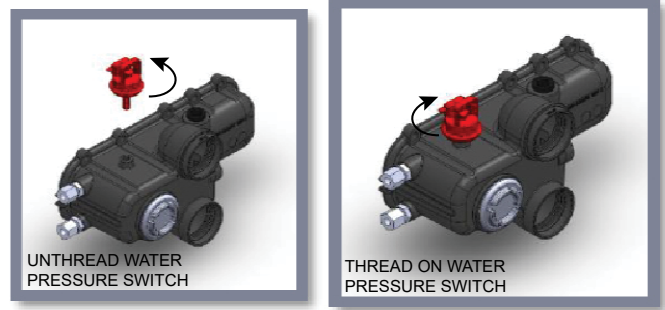

Figure 4. Water Pressure Switch Installation
9. Carefully remove the Water Pressure Switch after the electrical wires are disconnected by unthreading the switch off the header (See **Figure 4**).
10. Apply ample thread sealer to the length of the new Water Pressure Switch threads. Thread the switch clockwise into the main Inlet/Outlet header body (See **Figure 4**).